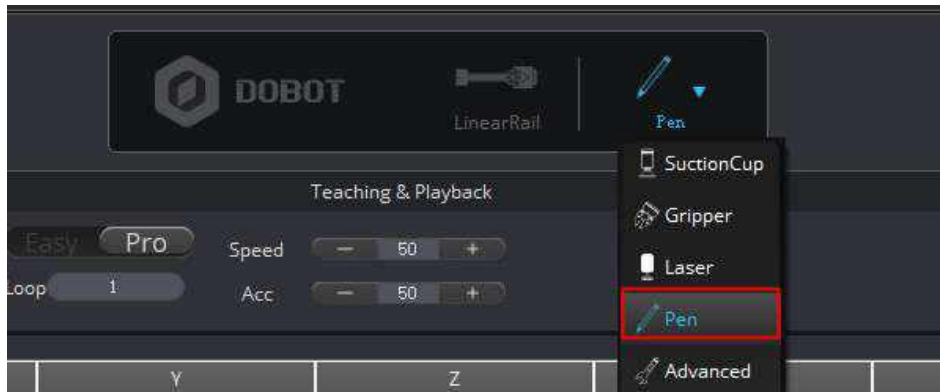

Figure 5.174 Select end-effector
- Step 1** Select **Pen** from the end-effector drop-down list on the DobotStudio page, as shown in Figure 5.174.